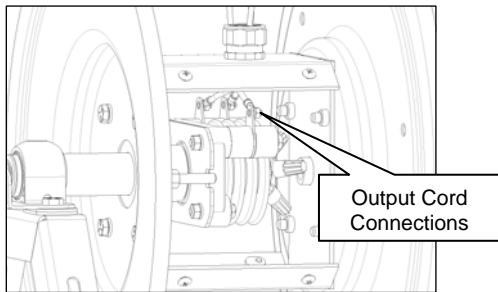

Figure 3
- 2) Fasten the cord to the slip ring assembly with suitable ring terminals as shown in **Figure 3**.